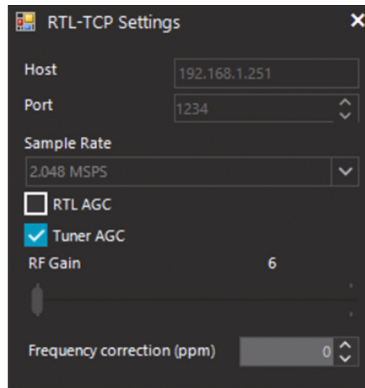

Figure 11.6: Enter the IP address.
- Click the **Configure Source** (Cog wheel icon) and enter the IP address of your Raspberry Pi 5 in the **Host** field, set the port to 1234, and click the Tuner AGC (Figure 11.6).